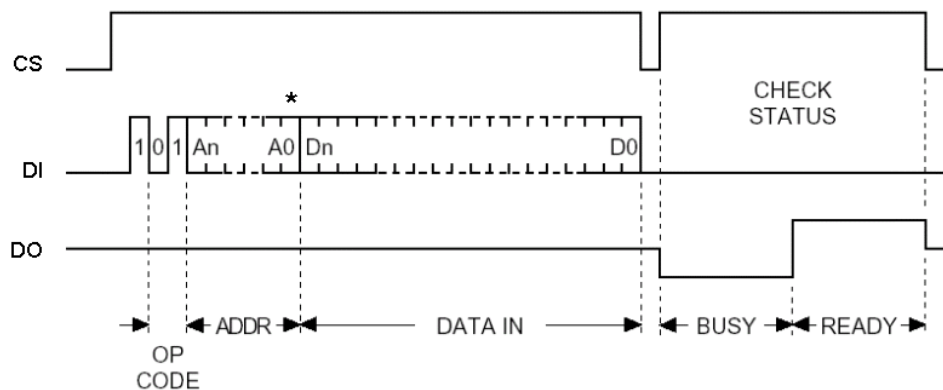

Figure 4: Write Cycle Timing Chart
The DO pin indicates the status of the programming cycle if the CS input is driven high after a minimum time specified by t_{CSL} . The Data Out (DO) pin will be tri-stated before the self-timed write cycle starts. When the DO pin is low, programming is in progress. When the DO pin is high, the data pattern specified in the instruction is in the designated memory address and the device is ready for another instruction. The DO pin will return to a tri-state level when the CS signal is driven low. It is not necessary to provide an SK signal while monitoring the status of the DO pin. See Figure 4.